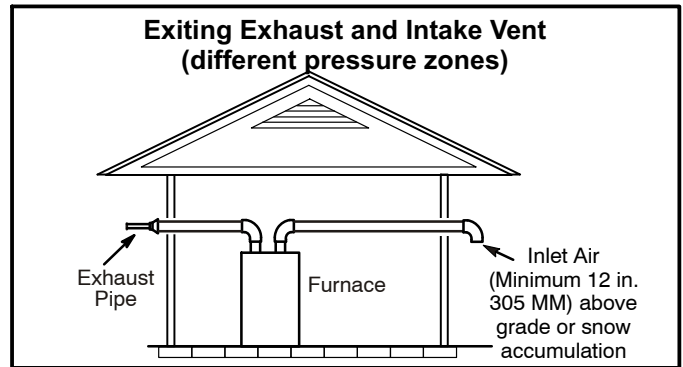

FIGURE 27
1. Intake and exhaust terminations are not required to be in the same pressure zone. You may exit the intake on one side of the structure and the exhaust on another side (figure 27). You may exit the exhaust out the roof and the intake out the side of the structure (figure 28).